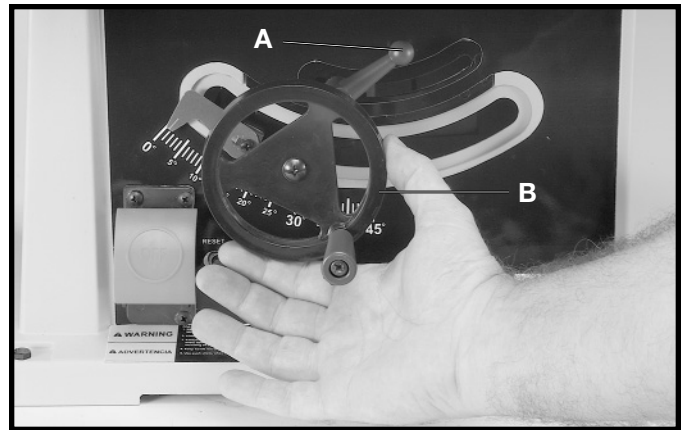

Fig. 40
To tilt the saw blade, loosen blade tilting lock handle (A) Fig. 40, move handwheel (B) until the blade is at the desired angle and tighten lock handle (A). **NOTE:** The lock handle (A) is spring-loaded and can be repositioned by pulling out on the handle (A) and repositioning it on the serrated stud located underneath the handle.